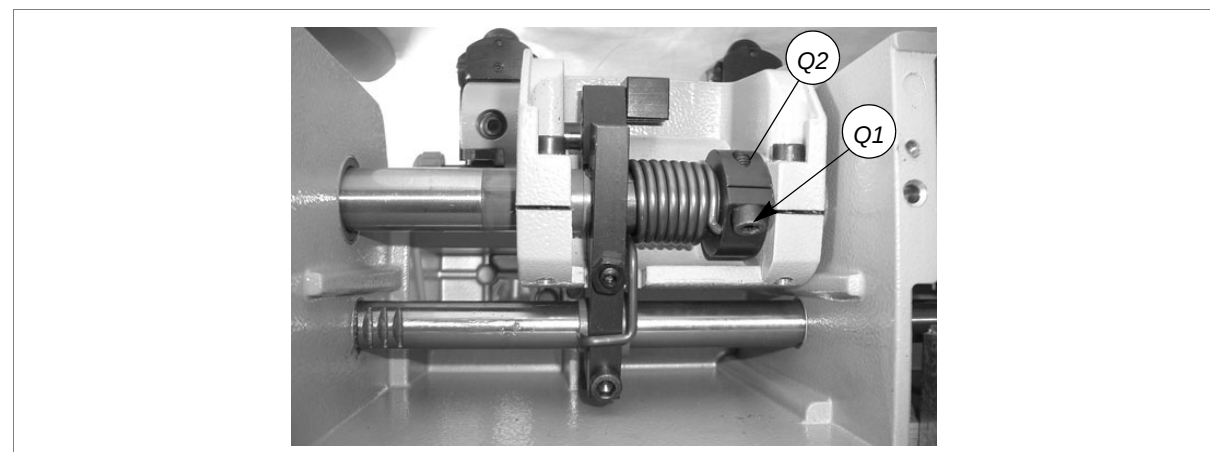

Fig. 53
- 13) Loosen the screw (Q1) on the spring ring nut (Q2) (fig. 53, page 33).